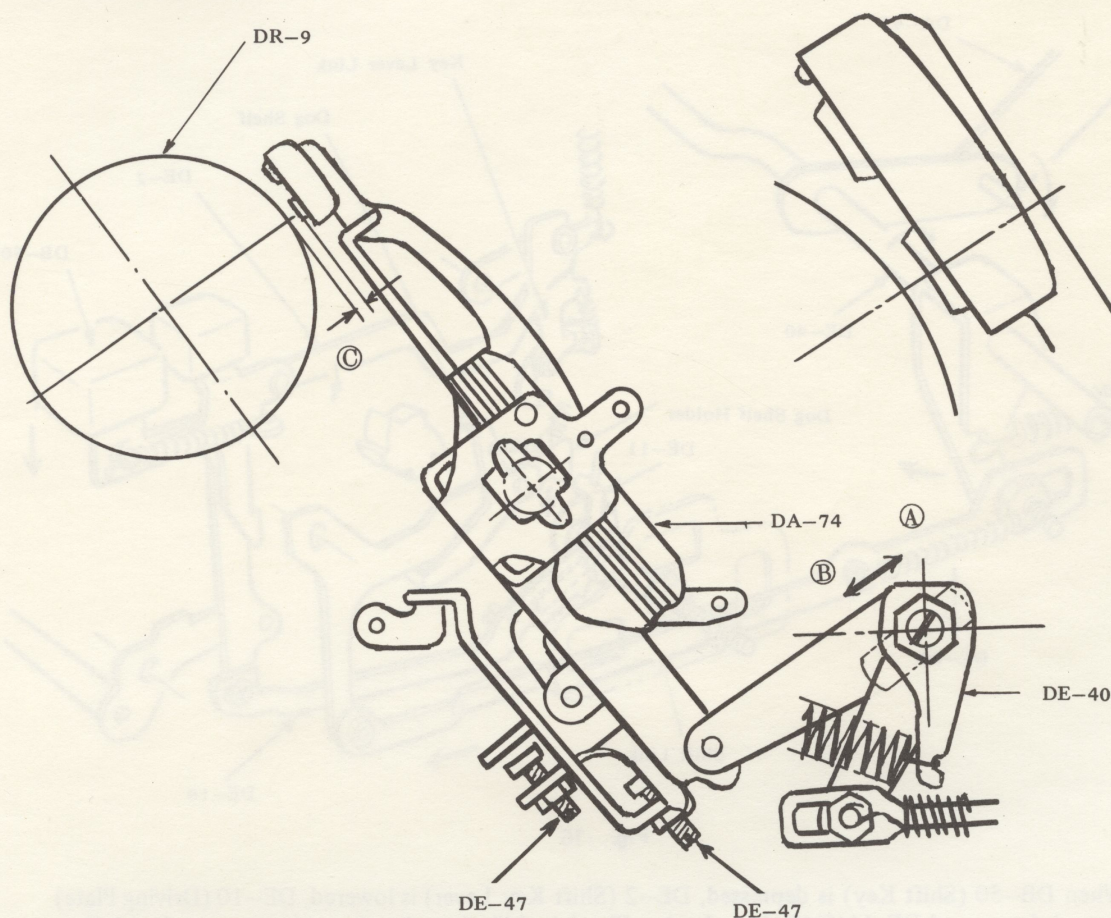

Fig. 17
- (1) Adjust the clearance (C) between Type (H is the basic character) and DR-9 (Platen) to obtain 0.05 to 0.20 mm by shifting DE-40 (Shift Link Rod) to (A) or (B) direction under Non-Shift condition. Adjust in the (A) direction for excessive clearance (C) causing thin printing and in the (B) direction for short clearance (C) causing dark printing. (Fig. 17)
- (2) Adjust typing surface and curvic surface of DR-9 with DE-47 (Screw) to obtain even printing all over upper and lower portion of typed character under Non-Shift condition. (Fig. 17)
- (3) With lowering DA-74 (Sector Plate) by hand, adjust lowering distance of DA-74 and DE-47 so as to align the bottom lines of capital letter "H" and small letter "h" when they are typed. DA-74 should not be depressed excessively in this adjustment. (Fig. 17)